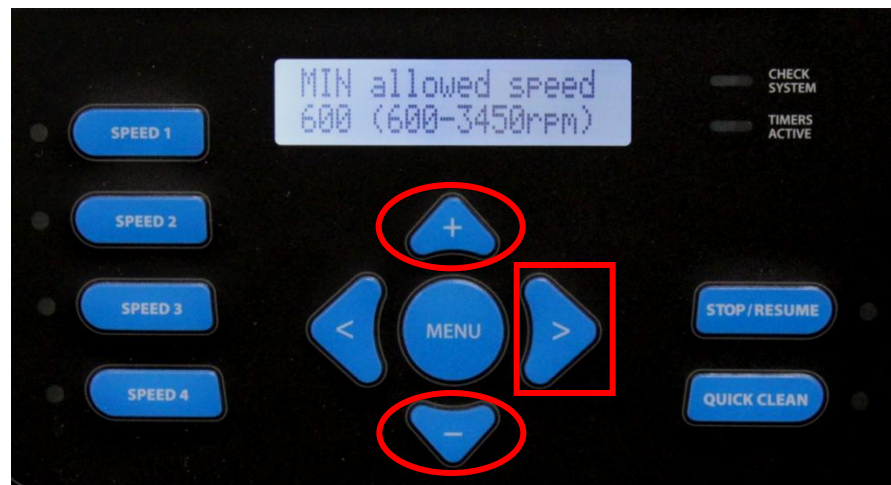

Fig 41
10. You will now see the MIN allowed speed. Same as #10 above for setting speed (fig 41). Press the  button to continue.